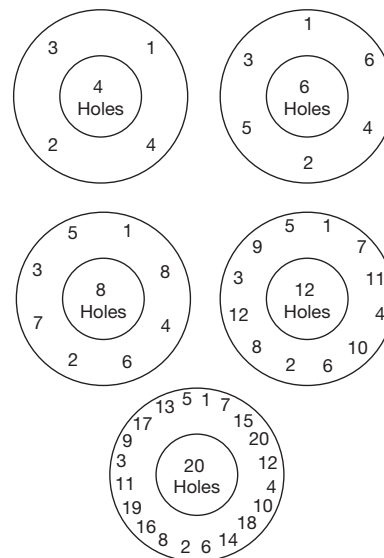

Figure 39: Bolt Tightening Patterns
16. Apply a small quantity of lubricant to the spring washer bearing surface of the spindle (15).
17. Place the spring assembly on the spindle (15).
18. Place a new bonnet gasket (12) in the base (1) before installing the bonnet (11). Uniformly tighten the stud nuts (14) using the appropriate bolt tightening pattern (see Figure 39). Determine the required torque for the subject valve (see Table 11). Determine the torque values for each round of the pattern (see Table 11). The last round ensures that all stud nuts are at the required torque.
19. With the adjusting screw locknut (20) assembled near the top of the adjusting screw (19), apply a small quantity of lubricant to the spherical end and threads of the adjusting screw.
20. Thread the adjusting screw (19) into the bonnet (11) until it contacts the spring washer (17).